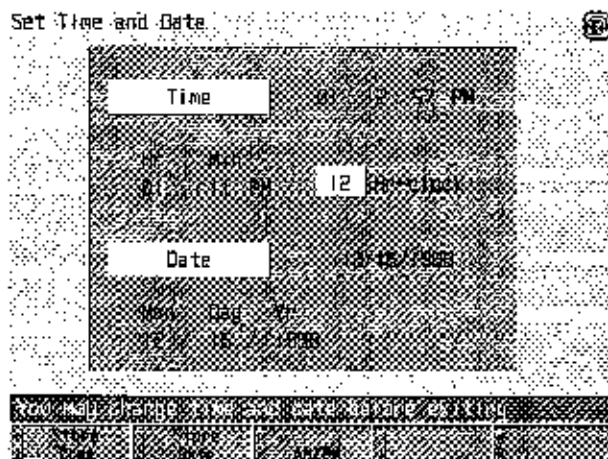

Figure 5-5
- The "Set Time and Date" screen appears (see Figure 5-5) with the current settings displayed.